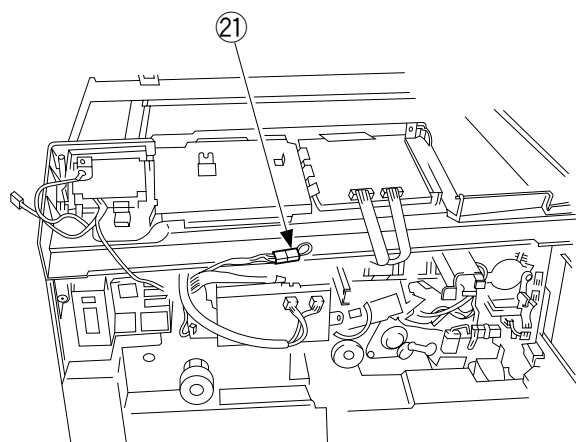

Figure 8-415
15) Disconnect the shorting connector ②① shown in Figure 8-415.